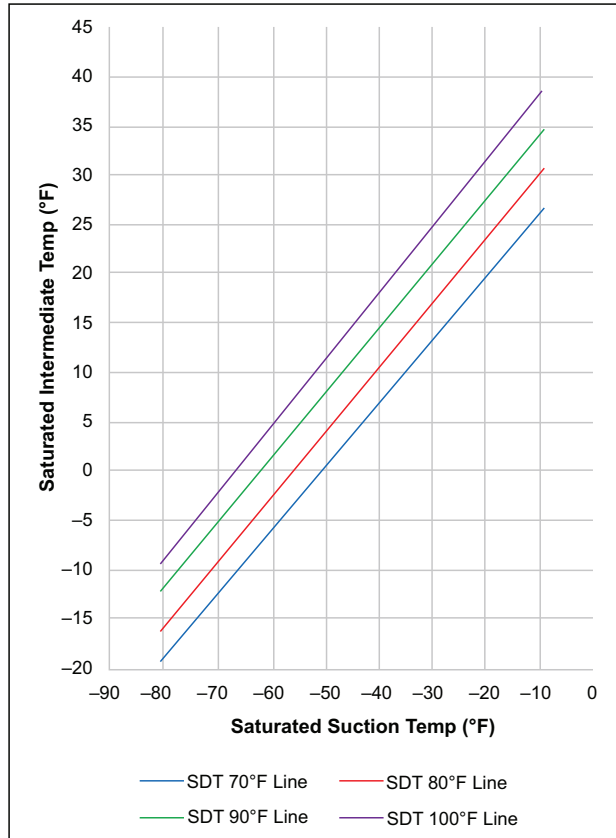

Fig. 22 — Optimum Intermediate Temperature for Low Stage Ammonia Compression, Suction Temperature (°F)
- Liquid at the expansion valve being cooled to the saturated discharge temperature of the booster compressor, as when using a flash type intercooler. When the liquid is sub-cooled to some higher temperature, the compressor rating is decreased 2% for each 10°F higher liquid temperature to the evaporator. See Fig. 22.